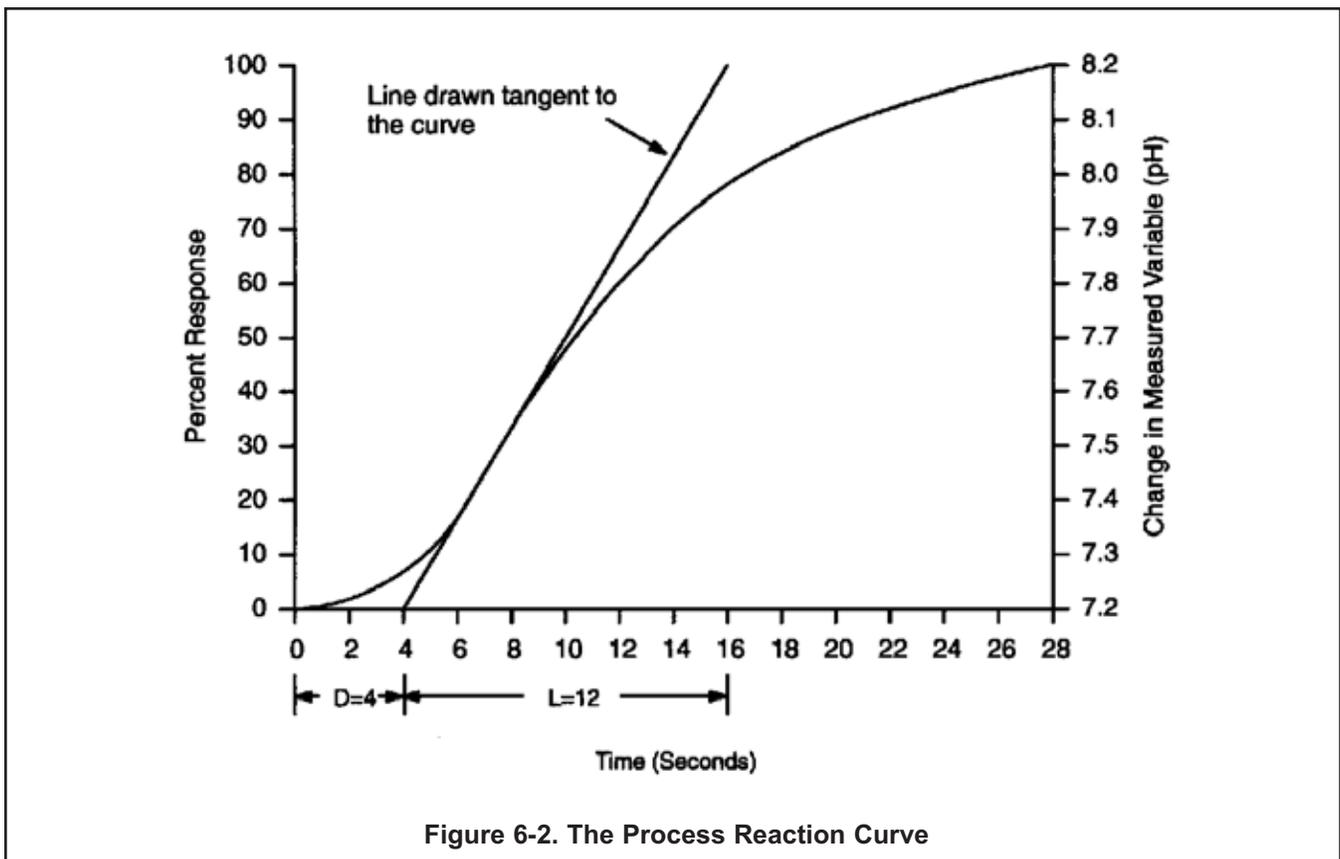

Figure 6-2. The Process Reaction Curve
The process reaction curve graphically shows the reaction of the process to step change in the input signal. Figure 6-2 shows an example of a tuning process for a pH controller. Similar results can be obtained for the conductivity controller.
The change in the measured variable (conductivity, pH, or millivolts) will be graphed as shown in Figure 6-2. This
- The reaction of the system, when graphed, will resemble Figure 6-2, showing a change in the measured variable over the change in time. After a period of time (the process delay time), the measured variable will start to increase (or decrease) rapidly. At some further time the process will begin to change less rapidly as the process begins to stabilize from the imposed step change. It is important to collect data for a long enough period of time to see the process begin to level off to establish a tangent to the process reaction curve.
A line is drawn on the process reaction curve tangent to the curve at point of maximum rise (slope) as shown in Figure 6-2. The Time Delay (D), or lag time, extends from "zero time" on the horizontal axis to the point where the tangent line intersects the time axis. The Response Time period (L), extends from the end of delay period to the time at which the tangent line intersects the 100% reaction completion line representing the process stabilization value. The ratio (R) of the Response Time period to the Time Delay describes the dynamic behavior of the system.
In the example shown in Figure 6-2: